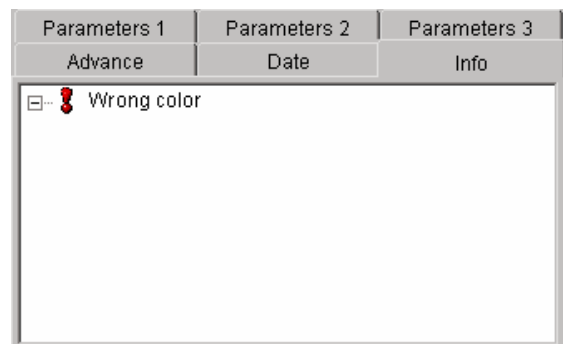

Fig. 3.5.2.2.
- If validation of a bottle is unsuccessful, the red lamp **ERROR** flickers. On clicking the button in the control program window, the user can view the **Info** tab sheet and identify the cause of the error, see Fig. 3.5.2.2..